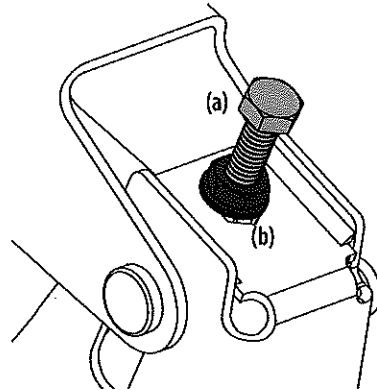

Figure 37
3. Locate the adjustment bolts (a) on the left and right side of the deck. See Figure 37.
4. Loosen, but do not remove, the jam nuts (b) on the adjustment bolt. Adjust either the right or left adjustment bolt up or down as necessary until the side-to-side heights are equal. See Figure 37.